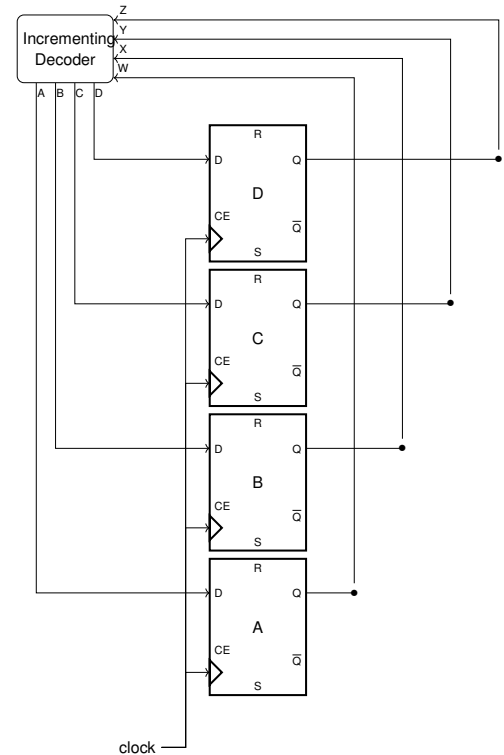

Fig. 6.2: Decade counter FSM implementation using D-Flip Flops
2. The FSM implementation is available in Fig 6.2 The *flip-flops* hold the input for the time that is given by the *clock*. This is nothing but the implementation of the *Delay* block in Fig 5.2